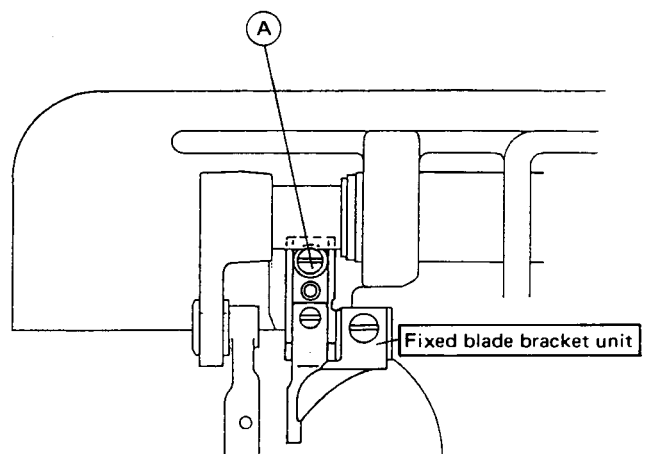

Fig. 4
- (1) As shown in Fig. 4, install the fixed blade bracket unit with the hook positioner dismantled, and then fix with the screws (A).